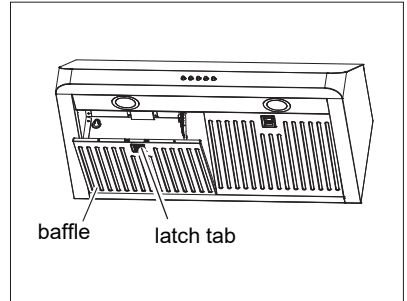

Fig 5
1. Install the baffles back to the range hood to finish the installation. (Fig 5)